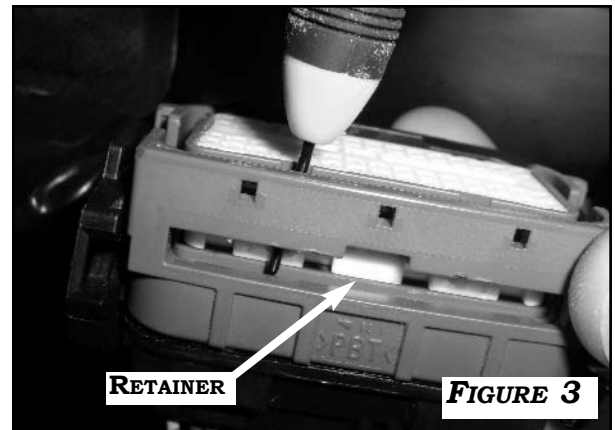

FIGURE 3
3. USE A PRECISION TOOL OR SMALL SCREWDRIVER TO RELEASE THE RETAINER OF THE CONNECTOR. FIGURE 3. REMOVE THE PLASTIC INSERTS IN PINS 24,8, AND 10.